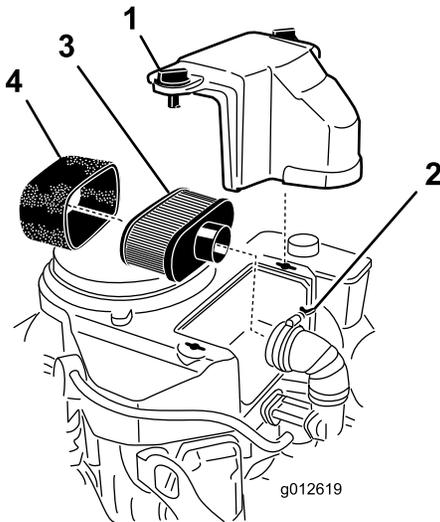

Figure 27
3. Clean around the air cleaner to prevent dirt from getting into the engine and causing damage (Figure 27).
4. Unscrew the cover knobs and remove the air-cleaner cover (Figure 27).
5. Unscrew the hose clamp and remove the air cleaner assembly (Figure 27).
6. Carefully pull the foam element off the paper element (Figure 27).
1. Do not clean the paper filter, replace it (Figure 27).
1. Carefully slide the foam element onto the paper air-cleaner element (Figure 27).
2. Place the air cleaner assembly onto the air cleaner base and secure it with the 2 wing nuts (Figure 27).
3. Place the air-cleaner cover into position and tighten the cover knob (Figure 27).